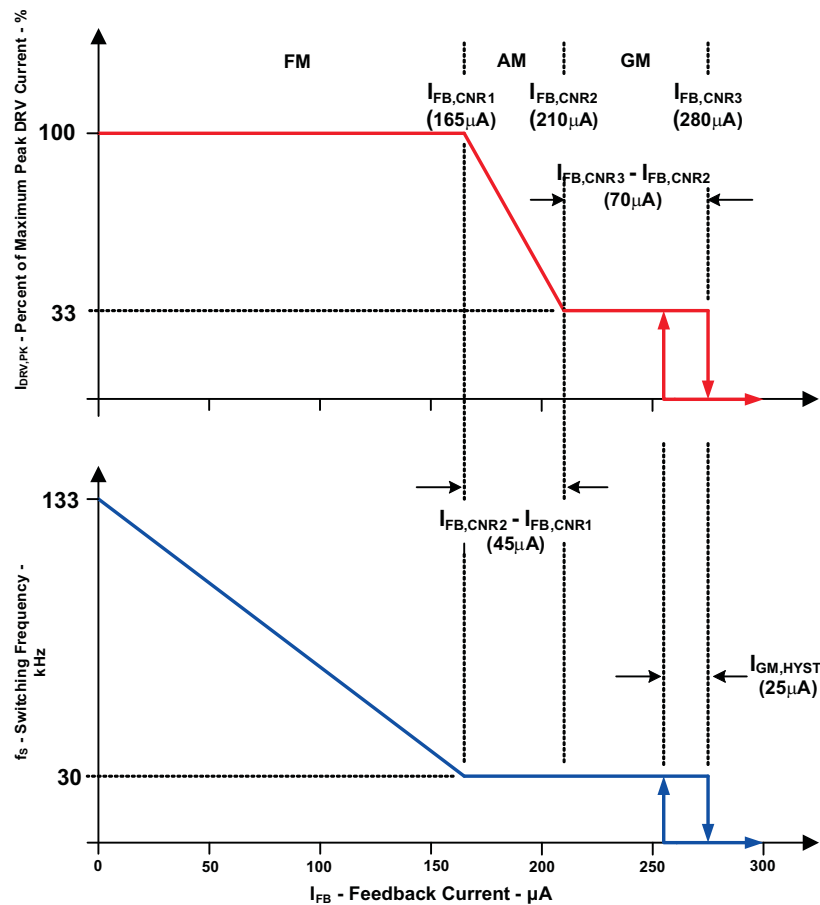

Figure 1. FB Electrical Condition Detail
(2) Refer to Figure 1.
(3) A latch-off or a shutdown and retry fault response to a sustained overload is selected by the range of R_{MOT}.